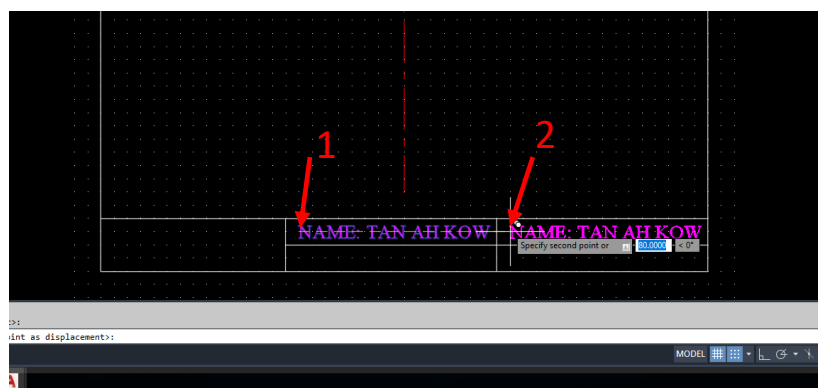

Fig 14
- iv. Next, **move cursor and click 5mm away (2)** horizontally from vertical partition of adjacent box on the right shown in Fig 14